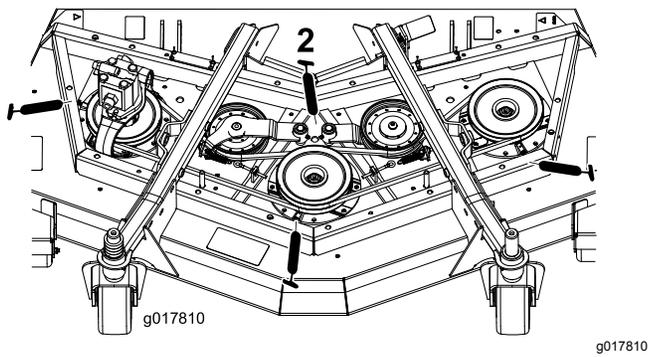

Figure 46
- 3 spindle-shaft bearings—located under the pulley (Figure 46)
- 2 idler-arm-pivot bushings (Figure 46)